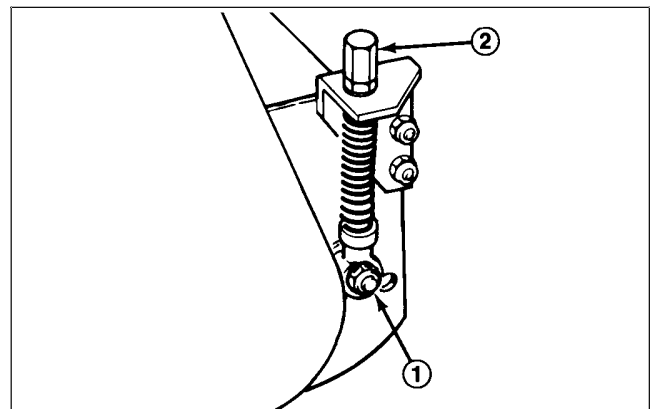

Figure 5
B. If no contact - loosen the adjuster locking nut on each adjuster (Fig. 5). Then, equally turn each adjuster knob clockwise until light contact is felt and heard.